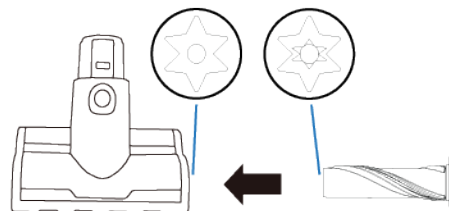

Figure 23
4. Insert the Sidekick Roller Brush back into the Sidekick Assembly and align with the Star Pulley. (Figure 23)